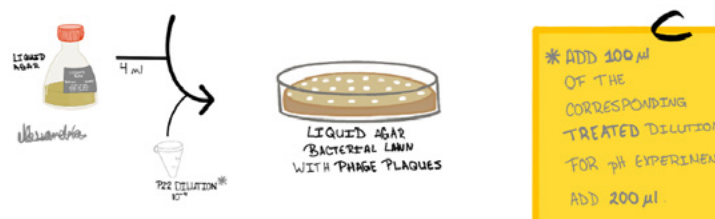

Figure 5. Phage seeding
8. Shake by inversion, and pour the mixture over a TSA plate, ensuring it is distributed evenly (figure 5).